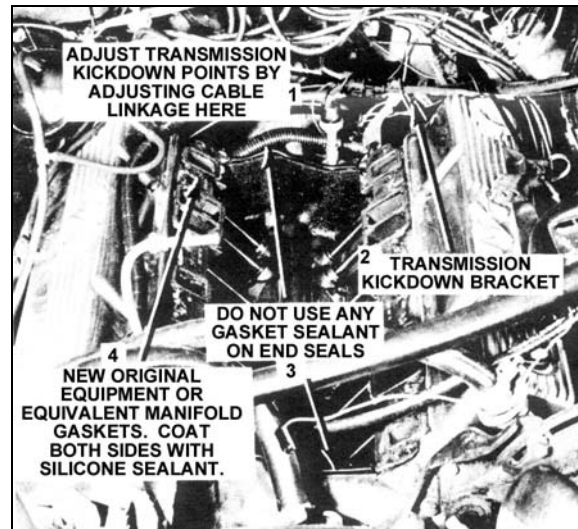

Figure 3
21. Apply sealant to manifold gaskets. See Figure 3.
4. Ignition timing should be set to factory specifications. Any attempt to further advance the **initial** ignition setting will result in (1) an adverse effect on exhaust emissions levels and (2) improper engine operation. (Since idle speed increase as the ignition is advanced, the only way to bring the idle speed down to an acceptable level is to close the throttle plates with the idle speed adjusting screw. Closing the throttle plates in this manner will change the geometry between the throttle plates and the idle fuel ports. This can cause idle quality deterioration and make it difficult to get the idle mixture rich enough). If more advance is desired, it should be done in the distributor advance curve.
5. When changing from a 2 BBL intake manifold to a 4 BBL intake manifold (**NOTE:** Check legality in your state), it is sometimes necessary to adjust the transmission kickdown linkage to the carburetor in order to obtain wide-open throttle. This adjustment is made by loosening the locking grommet shown in Figure 3 and pulling enough kickdown cable through the grommet to achieve W.O.T. Lock the grommet against the kickdown cable and connect the kickdown linkage to the carburetor. Consult the appropriate chassis service manual for detailed adjustment instructions.